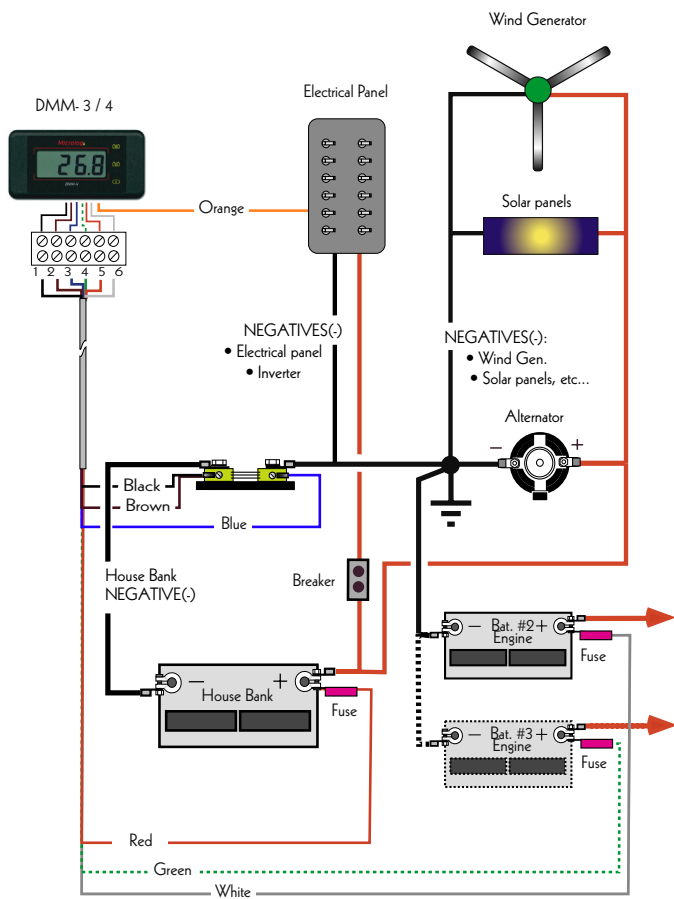

Figure 2: Installation with Shunt to measure the NET current value
- A- You can choose to install the shunt as a House Bank NET current flow monitor with a charging (+) or a discharging (-) sign on the instrument as in Figure 2, It is the easiest way for a vehicle or RV.
A- Figure 2 show the instrument with shunt to measure the NET value of current supplied to batteries :